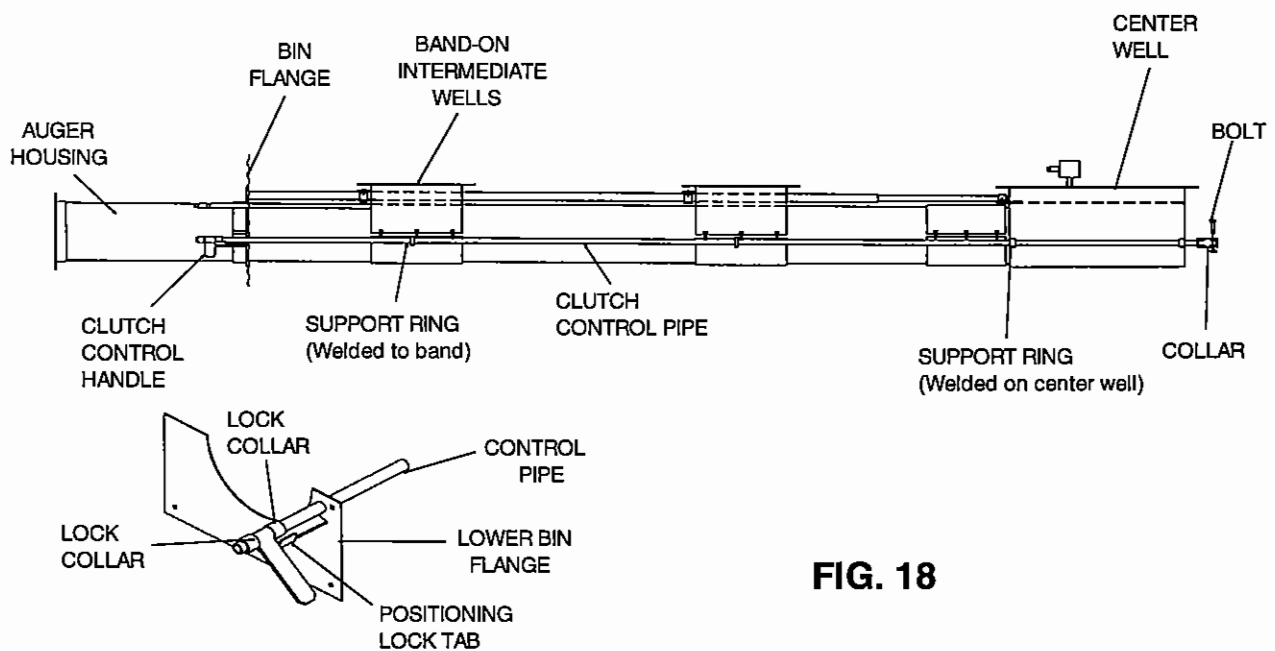

FIG. 18
9. Install control pipe for clutch on center well. (See Fig. 18.)